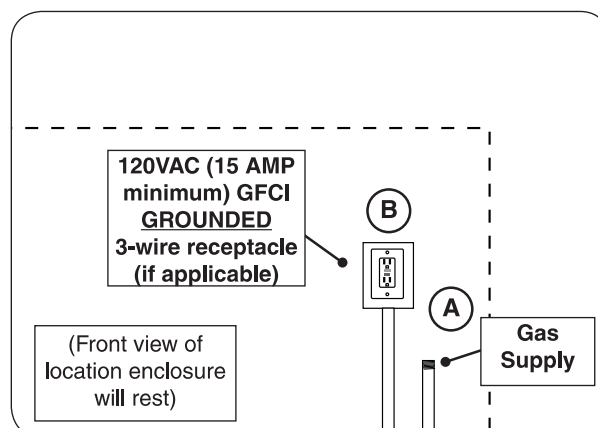

Fig. 21-1 Route gas and electrical (receptacle)
1. Route the gas supply into the area that the unit will rest over (see Fig. 21-1, A).
1. Wire the receptacle into the area that the enclosure will rest over (see Fig 21-1, B).